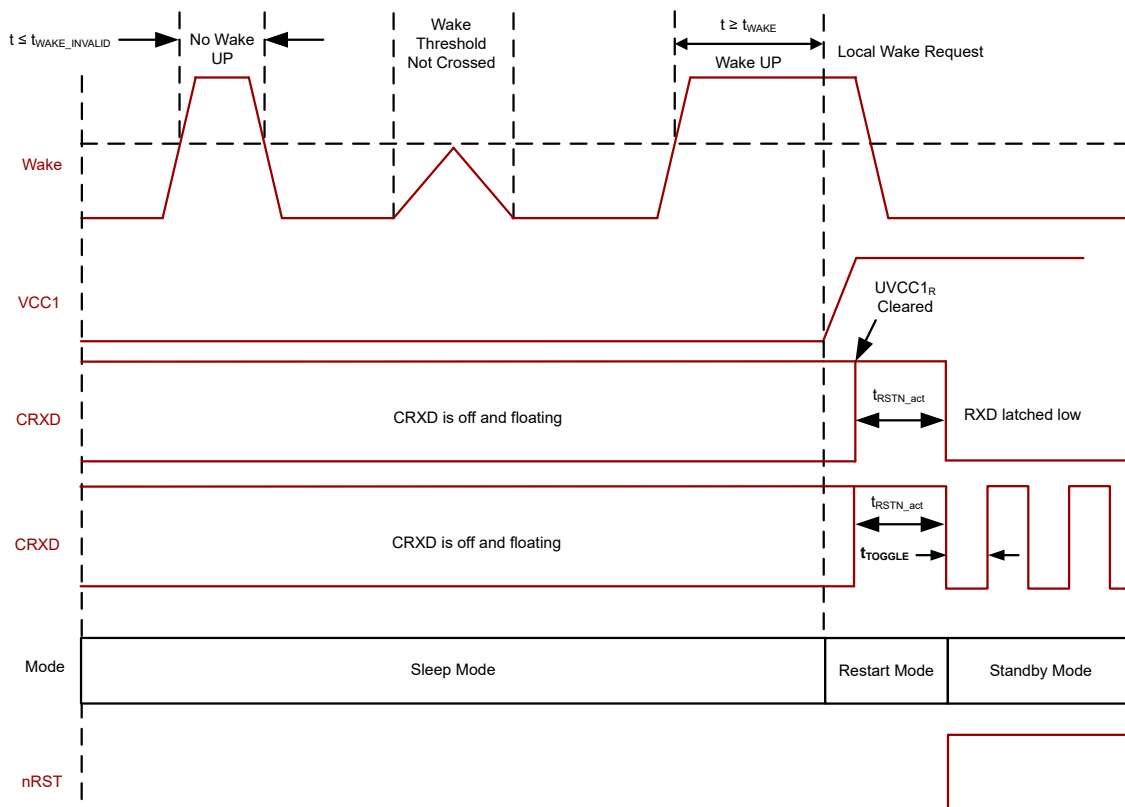
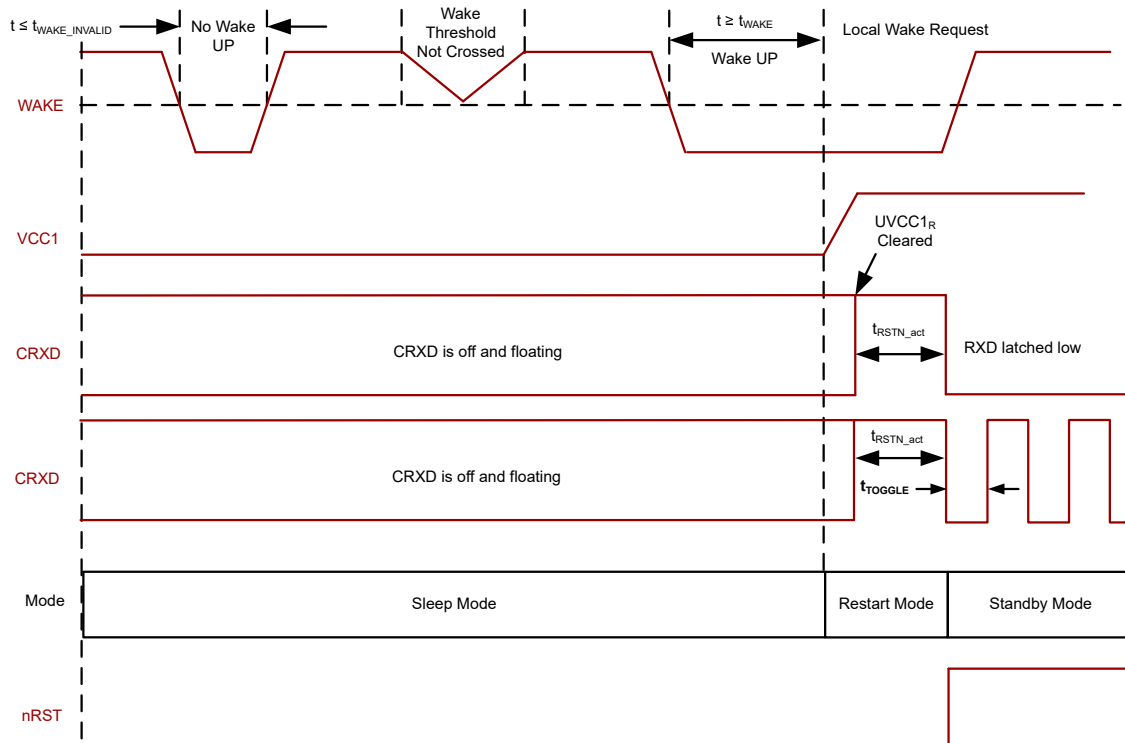

Figure 8-21. Local Wake Up – Rising Edge
Figure 8-22. Local Wake Up – Falling Edge
The WAKEx pins default to bi-directional input but can be configured for rising edge and falling edge transitions, see Figure 8-21 and Figure 8-22, by using WAKE_CONFIG register 8'h11[7:6]. WAKE pins are ground based wake inputs and can be used with a switch to ground or V_{SUP} . The WAKEx pins input thresholds can be based on VCC1 levels which would allow a direct connection to the processor or a switch to the VCC1 rail. If the terminal is not used, it must be connected to ground to avoid unwanted parasitic wake up. Once the device enters sleep mode the WAKEx terminals voltage level need to be at either a low state or high state for t_{WAKE} before a state transition for a WAKE input can be determined. A pulse width less than $t_{WAKE_INVALID}$ is filtered out.
- Figure 8-21 and Figure 8-22 provide examples of a rising or falling edge WAKE input. RXD is pulled low once $VCC1 > UVCC1$ and standby mode is entered.